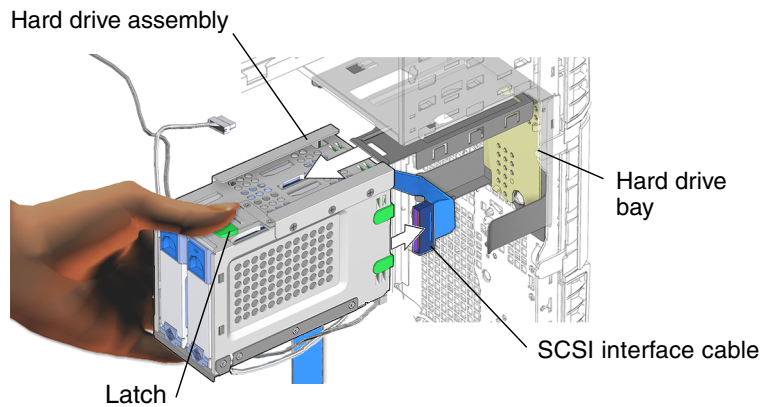

FIGURE 14-12 Removing the Hard Drive Assembly
2. Remove the hard drive assembly (FIGURE 14-12).
- b. Press down on the green plastic latch at the top of the hard drive bracket and slide the hard drive bracket out of the bracket mounting rails (FIGURE 14-12).
3. Locate the SCSI interface cable (FIGURE 14-12).